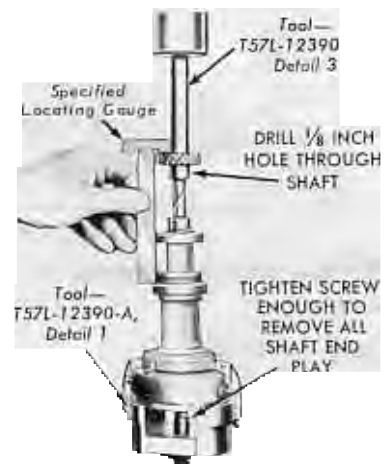

FIG. 13—New Shaft and Gear Installation
4. With the backing screw on the support tool tightened enough to remove all end play, press the gear on the shaft to the specified distance from the bottom face of the gear to the bottom face of the distributor mounting flange (Fig. 13). Drill a 1/8-inch hole through the shaft using the hole in the gear as a pilot.